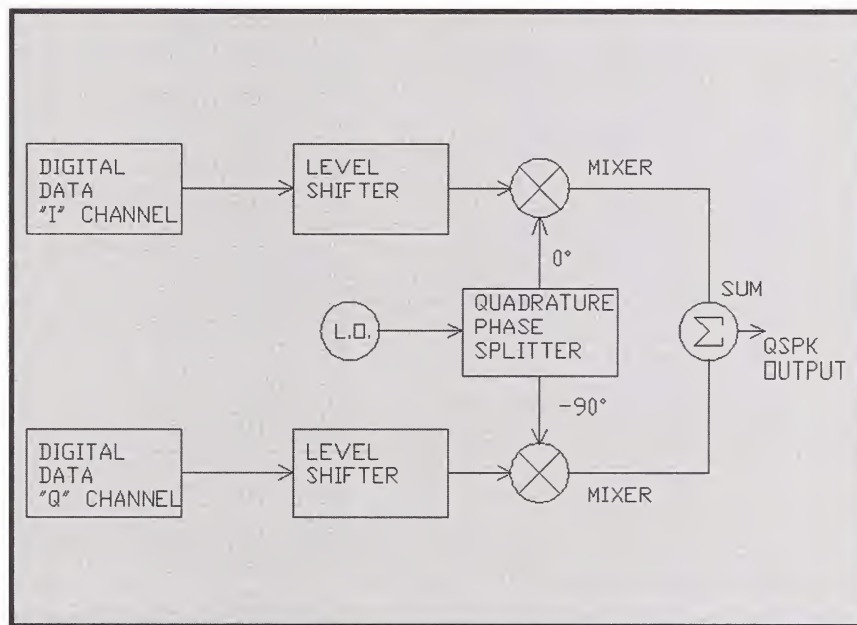

Figure 6.
Consider the quadrature phase shift keyed (QPSK) system shown in the block diagram of Figure 6. The QPSK output is the sum of dual binary phase shift keyed (BPSK) generators using quadrature local oscillator (LO) signals. A LeCroy WaveStation, LW420, can be used to replace any, or all, of the system blocks to provide signals with a full range of variability to simulate worst case changes in amplitude, phase, frequency, or signal to noise ratio.